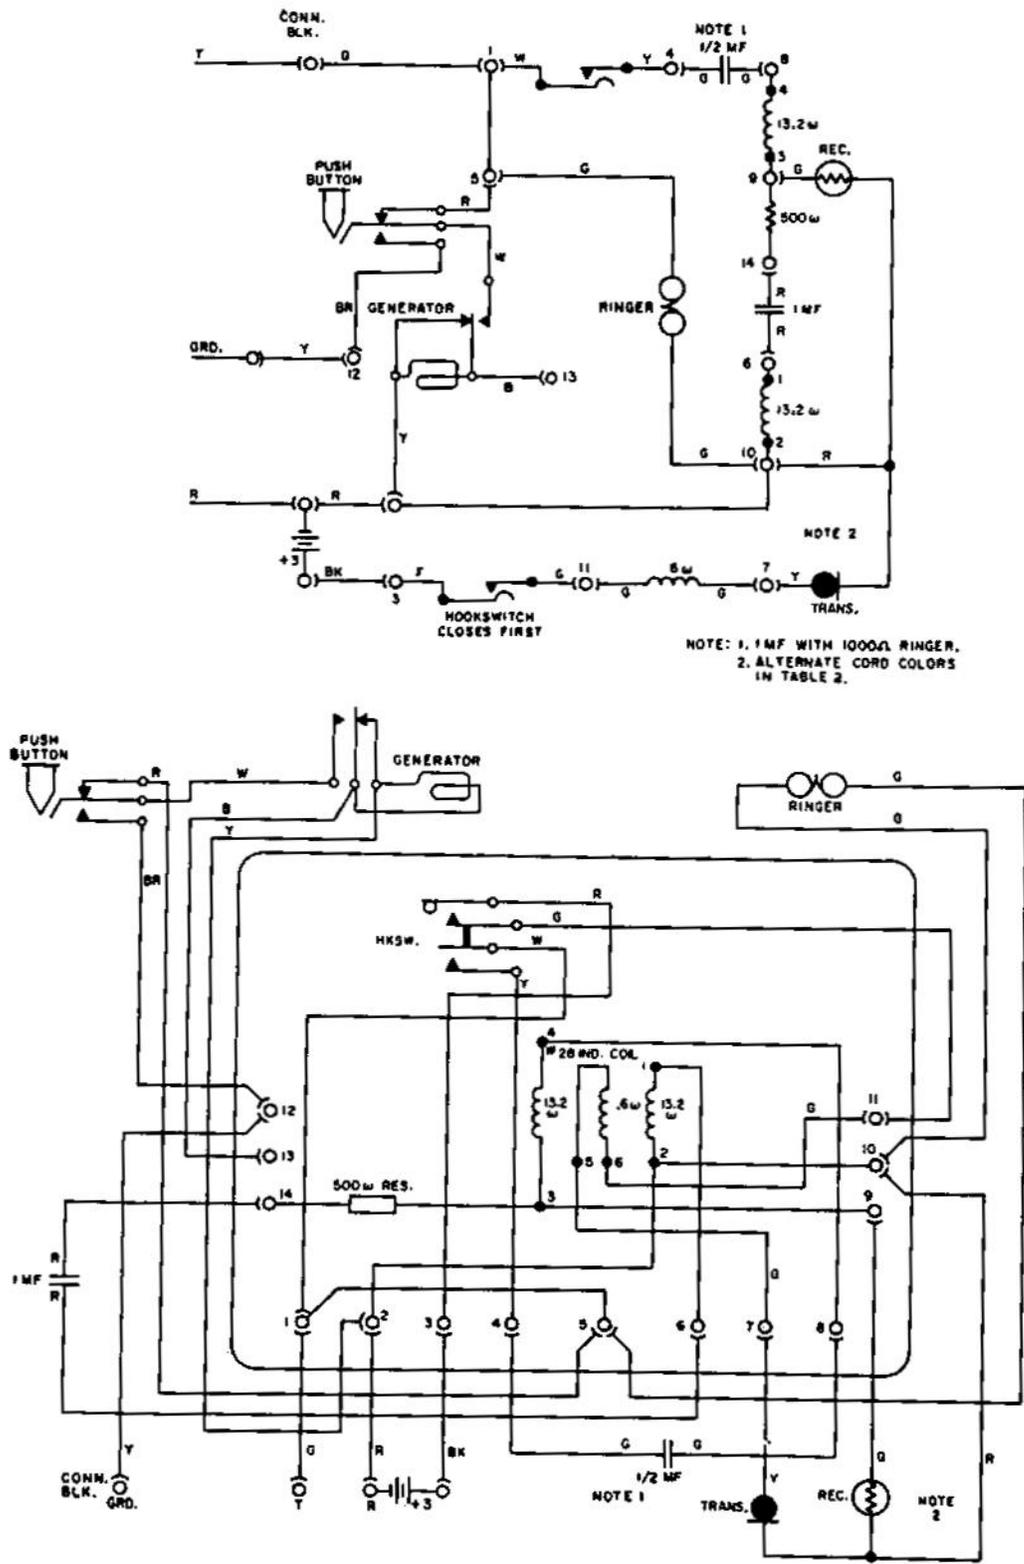

Figure 5. Schematic and Wiring Diagram, Code 901D (NL-12841) Telephone Set.
3.08 In some exchanges the station ringers are wired for metallic ringing, but the switchboard drops are wired to ground so they do not respond to calls between stations. This application requires Code 901D or 911D telephone sets at the stations (see Figures 5 and 6). To call another party on the line, the customer merely cranks the generator in the usual way. In this case, the ringing potential is applied to the line on the metallic basis, sounding the ringers at all other stations (and at the calling station, unless wired in accordance with the preceding paragraph). The switchboard drop is unaffected by the call. To call the operator from any station on the line, the customer lifts the handset from its cradle and depresses the pushbutton at the left rear of the cradle while cranking. In this case, the ringing potential is applied from line to ground, no ringer sounds at any station, but the switchboard drop is released to signal the operator. The 014907 version of the Code 901D set (see Figure 9) is further arranged to extend the loop range over which this feature is possible by connecting the generator in simplex (from ground to both line conductors simultaneously) when the pushbutton is depressed. If used on a short loop where single-conductor grounded ringing is adequate, the set may be converted to that service by removing the blue pushbutton lead from terminal 5 and taping the spade terminal.